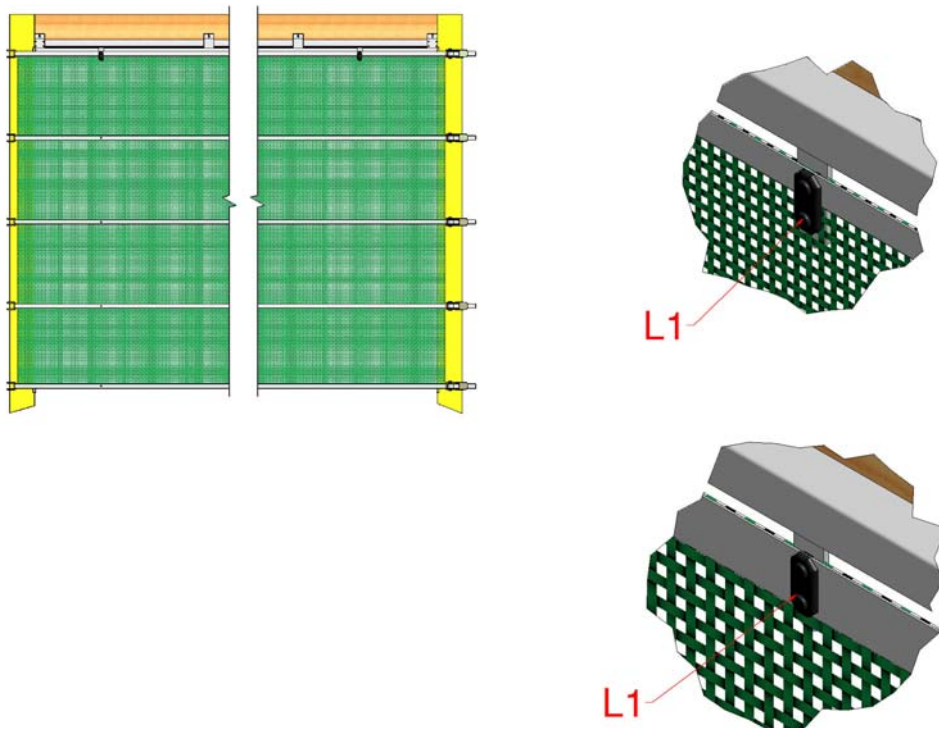

Figure 5, Attaching the Screen
- Raise the screen and attach the trolley clamp plates (M1) to the upper two holes in the trolley (K1) and secure with the M6 nyloc nuts, Figure 5.